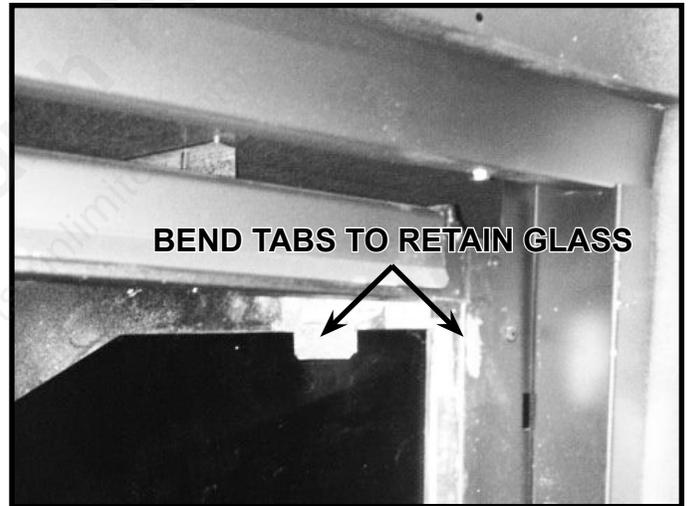

Figure 11.15 Right Refractory Tab
- Slide right glass panel into appliance until it contacts the rear glass panel. Bend the refractory tabs over to retain the right glass panel. See Figure 11.15.